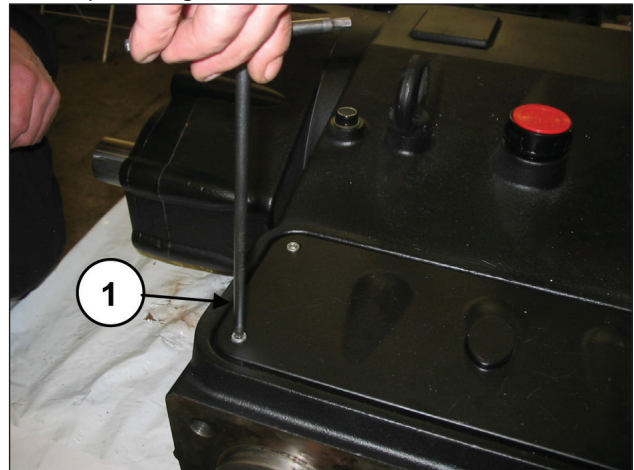

Fig. 157
Remove the upper inspection cover, unscrewing the 4 fixing screws (pos. ①, Fig. 157).